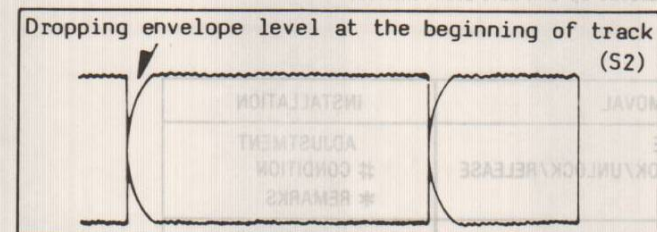
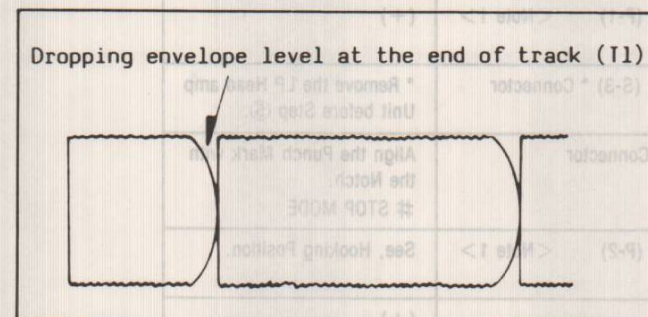
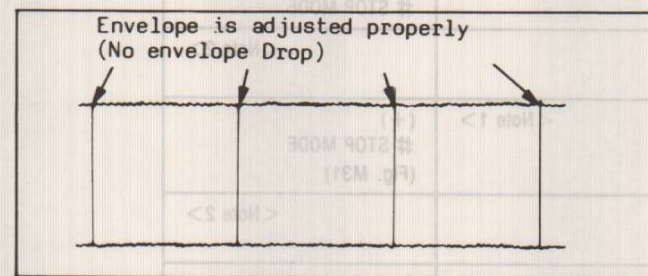

Fig. M25-2
Fig. M25-3
Fig. M25-4
- When the scope display is as shown in Fig. M25-2, adjust the height of S2 so that the waveform looks like Fig. M25-4.
- When the scope display is as shown in Fig. M25-3, adjust the height of T1 so that the waveform looks like Fig. M25-4.
- The scope display should appear as shown in Fig. M25-4 when S2 and T1 Posts are adjusted properly.